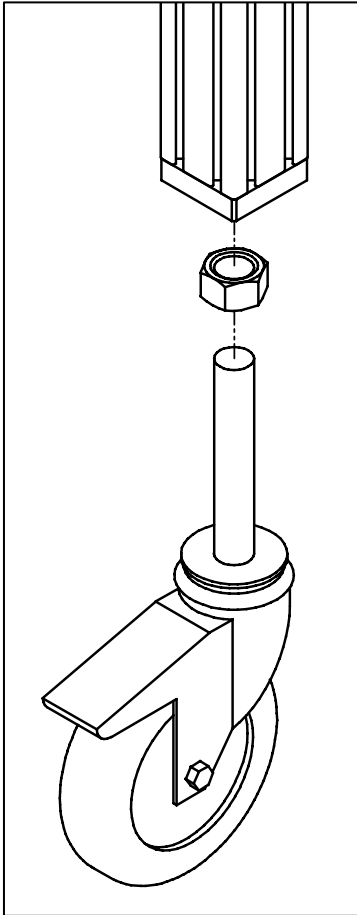

Figure 1
a. Once the conveyor is mounted on the stand, the caster's stem can be used for final height adjustment, up to 1 1/2" up or down. Use a large adjustable wrench to loosen the hex nut, engage the swivel lock, then rotate the caster to the desired height by hand, and finally retighten the Hex Nut to secure it in position (**Figure 1**).